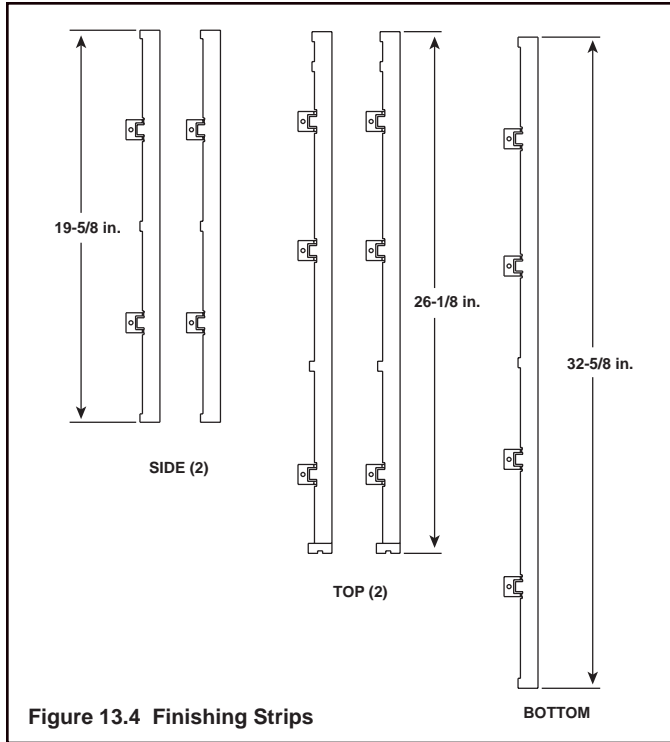

Figure 13.4 Finishing Strips
1. See Figure 13.4 to identify top strips.